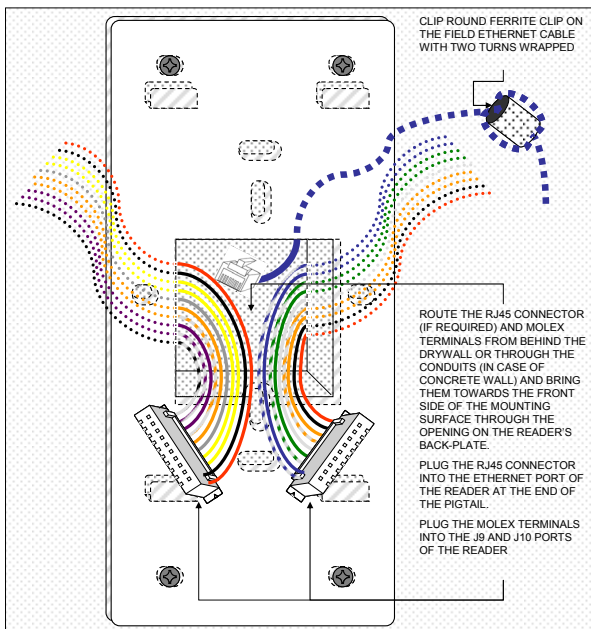
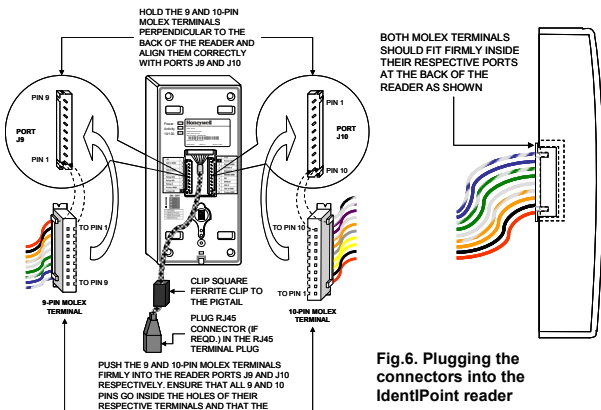
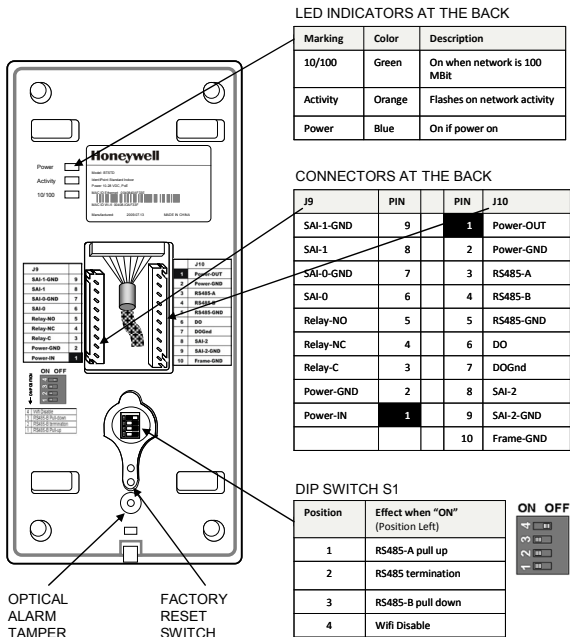

Fig.5. Routing the wires before plugging the connectors into the reader
Fig.6. Plugging the connectors into the IdentiPoint reader
Fig10. Reader connections
4. Route the field wires including the Ethernet cable (if required) from behind the drywall through the cable opening and bring them to the front of the mounting surface. Clip the square ferrite clip on the reader's Ethernet pigtail. See **Fig.6**. Connect the field wiring to the correct Molex pigtails. See **Fig.5**. For reader connection details see **Fig.10**. Plug the Molex terminal(s) in ports J9 and J10 at the back of the reader. See **Fig.6**. Clip (with two turns wrapped) the round ferrite clip on the field Ethernet cable. See **Fig.5**. Plug the RJ45 connector of the field Ethernet cable into the Ethernet port of the reader at the end of the pigtail. See **Fig.6**. Drop the excess lengths of Molex and Ethernet wires behind the drywall. Set the S1 DIP switch if the reader is to be connected to an IOM via RS485. See **Fig.10** and appendix for more details.
3. Route the field wiring including the Ethernet cable (if required) from the conduits into the gang-box. Clip the square ferrite clip on the reader's Ethernet pigtail. See **Fig.6**. Connect the field wiring to the correct Molex pigtails. See **Fig.5**. For reader connection details see **Fig.10**. Route the Molex terminal(s) through the cable opening on the back-plate towards the front of the mounting surface (see **Fig.5**) and plug them in ports J9 and J10 at the back of the reader. See **Fig.6**. Clip (with two turns wrapped) the round ferrite clip on the field Ethernet cable. See **Fig.5**. Plug the RJ45 connector of the field Ethernet cable into the Ethernet port of the reader provided at the end of the pigtail. Accommodate the Molex and Ethernet
pigtails inside the gang-box. Set the S1 DIP switch if the reader is to be connected to an IOM via RS485. See **Fig.10** and appendix for more details.